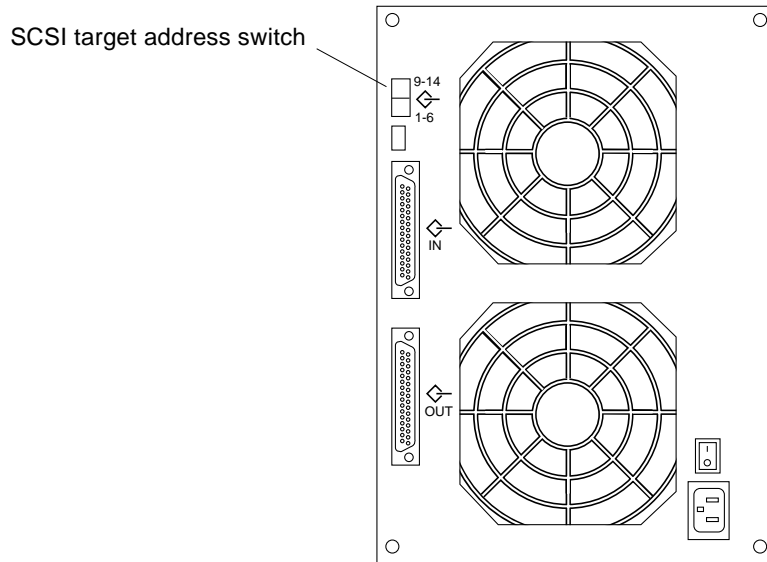

FIGURE B-2 SCSI Target Address Switch Location
- If you have a fully loaded unit connected to an UltraSCSI or fast wide SCSI bus, you can install a host adapter card (see Section B.2, “Host Adapter Cards”), or select one of two preset ranges of SCSI target ID numbers to assign to the drives: 1 through 6, or 9 through 14. To select the SCSI target address range, set the switch on the back of the unit to the 1–6 or 9–14 position. See FIGURE B-2 for the switch location.
When you install the SPARCstorage MultiPack 2, you must choose either the 1-6 or 9-14 SCSI target address range for your drives. To select the range, set the SCSI target address switch on the back of the enclosure to the 1-6 or 9-14 position (FIGURE B-2). The default switch setting is 1-6.